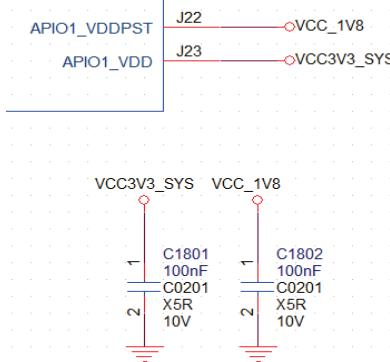

Figure 4-48 MAC Power Decoupling Capacitor
- The decoupling capacitor should be placed close to RK3399 power pin. Shown as Figure 4-48.
Rockchip had design 4 universal on-board antenna, which are ANT1227SD, ANT1227SS, ANT2885S, ANT4411D (Shown as Figure 4-48) ,suitable for different platforms and terminals. RK universal antennas have good performance and wide applicability; can make a flexible and rapid optimization of the adjustment according to the actual environment of PCB, which will greatly improve the work efficiency.